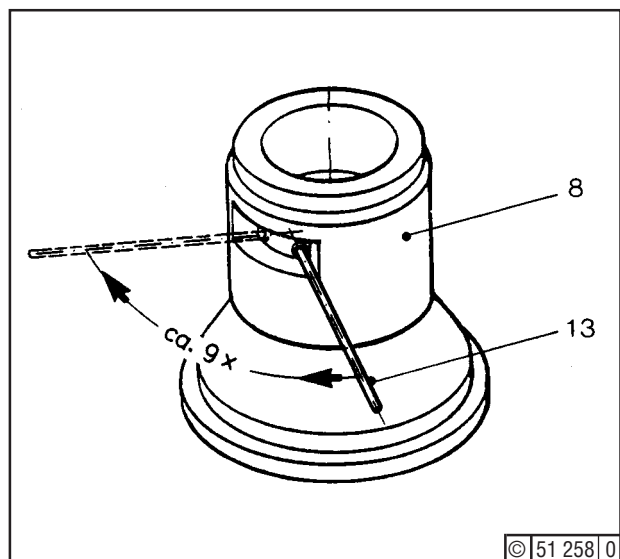

Fig. 3
Back bolt (10) through one turn. Connect hydr. pump with hoses and operate pump to obtain the pressure specified (Section 3.5, item 2). Introduce pin (13) - Fig. 3 - through aperture in bush (8). If annular nut (4) still resists turning, slowly raise oil pressure (10 to 20 bar).
Using pin (13), screw back nut (4) up a little ahead of clamping nut (7), which requires some (9) strokes in the slot of bush (8) - Fig. 3 -. Take off oil pressure.